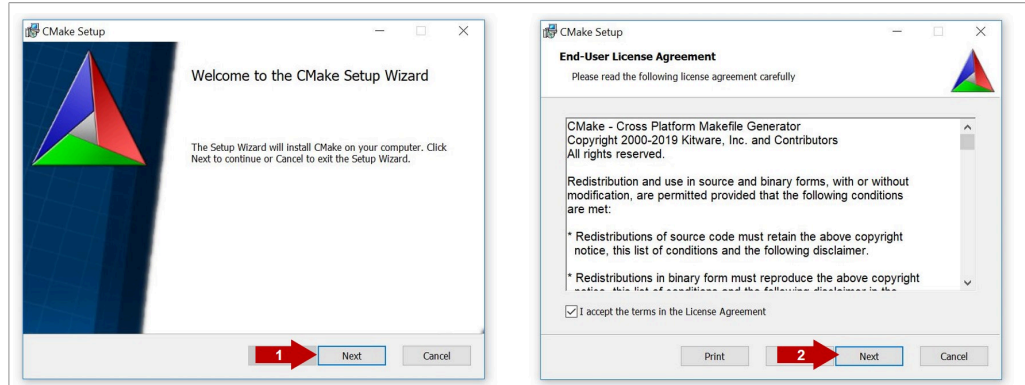

Figure 68. CMake installation wizard
- The CMake installation wizard will open. Click (1) **Next** and (2) **accept** the End-User License Agreement as shown in Figure 68: